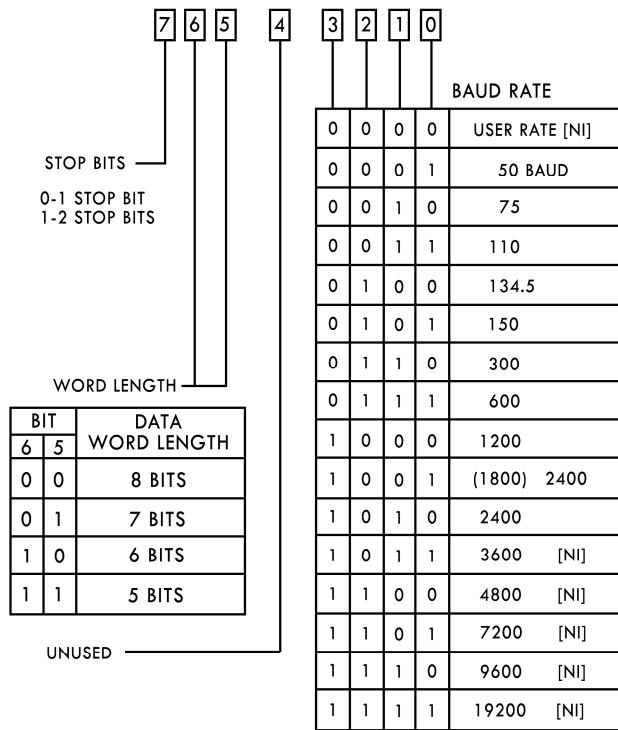

FIGURE 6-1. CONTROL REGISTER MAP
<**control register**> – Is a single byte character (see Figure 6-1, Control Register Map) required to specify the baud rates. If the lower 4 bits of the baud rate is equal to zero (0), the <opt baud low><opt baud high> characters give you a rate based on the following: